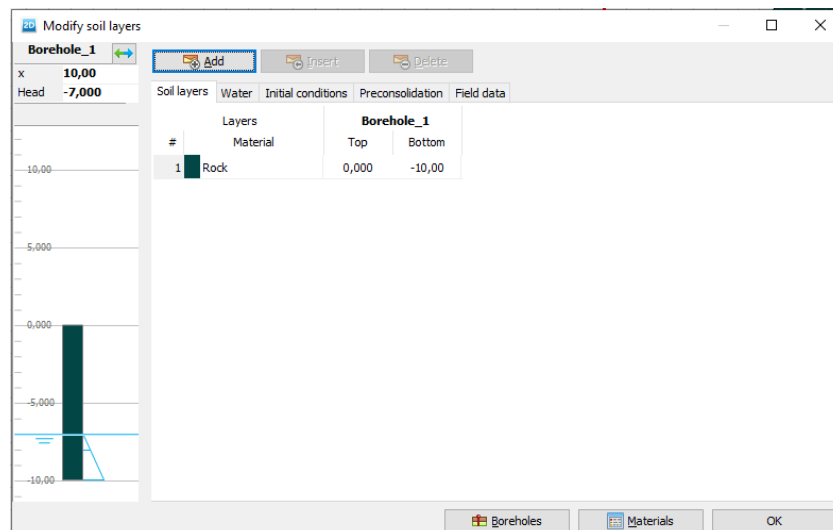

Figure 3: Modify soil layer window.
- **Define single soil layer** as shown in (Figure 3).
- **Create soil material data set** according to **Table 1** and **assign them to the corresponding layer in the borehole** (Figure 3).